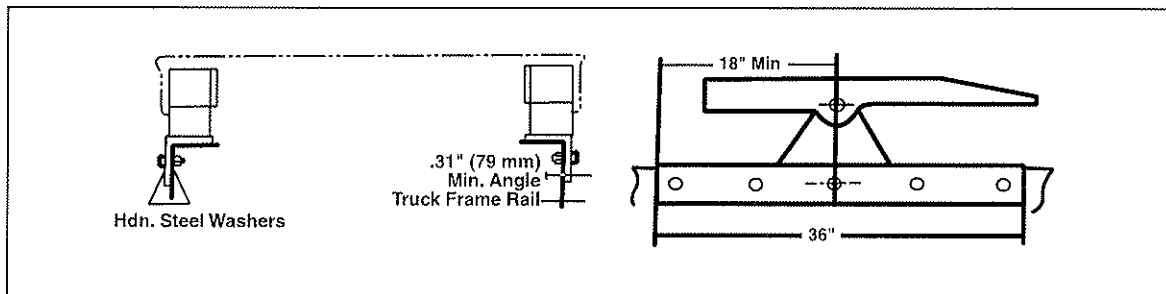

Fig. 5
1. The mounting angle should extend a minimum of 18 inches forward and not less than 12 inches to the rear of the pivot point. The minimum angle length is 36 inches. (See Fig. 5.)